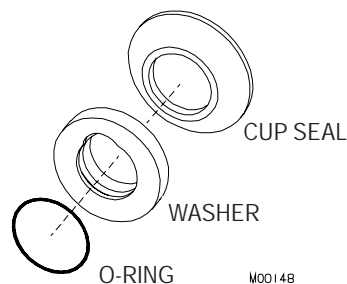

Figure 6-3 Shaft Seal
7. Remove the handle pin (5), handle (4), plunger (9) and nozzle (2) from the dispense head.
8. Remove O-ring (12) from the dispense head and O-rings (10, 11) from the plunger (9).
9. Remove the cup seal (figure 6-3) and O-ring from the plastic washer on the shaft seal assembly.